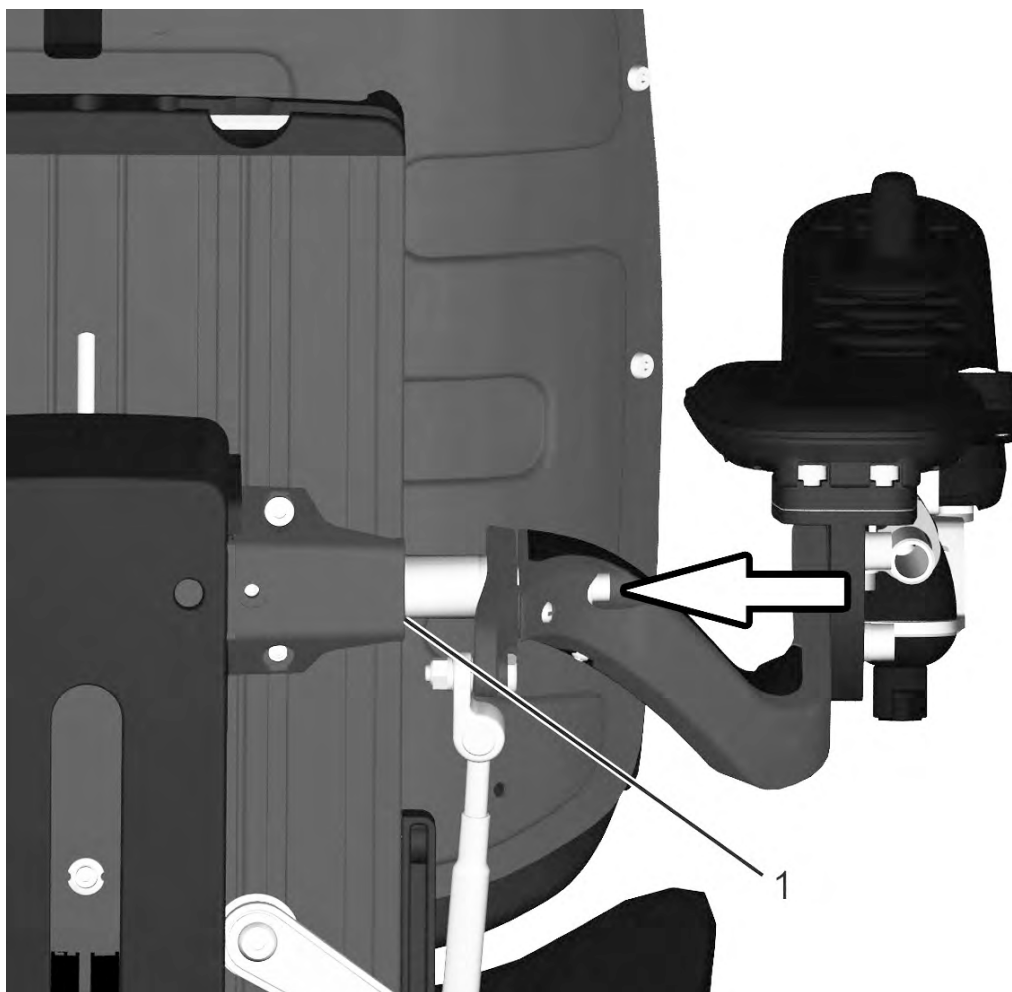

Figure 259. The armrest width is fixed using one screw.
1. Loosen the screw for armrest width adjustment approximately 3 turns. See fig. 259.